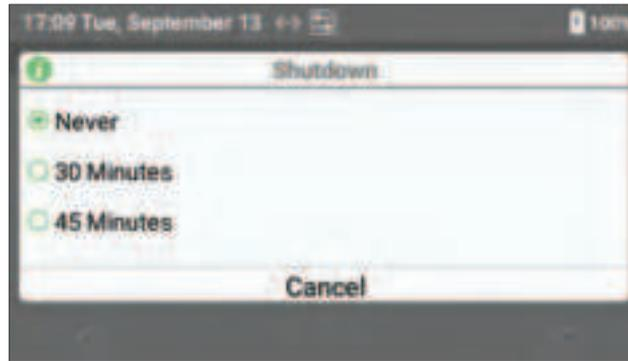

Figure 23: Shutdown Interval
- 2 In the dialog box (Figure 23), select the desired interval.